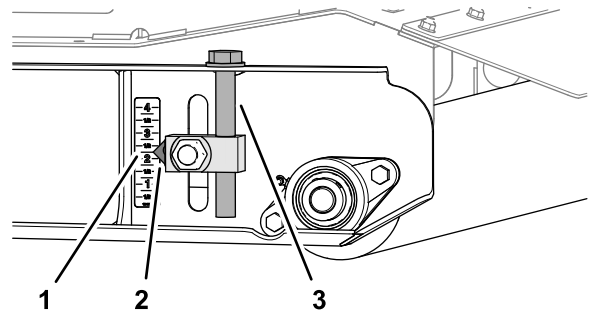

Figure 77
5. At the rear roller, raise the left and right height of cut adjusters to the 2-1/4 inch mark on the decal (**Figure 77**).